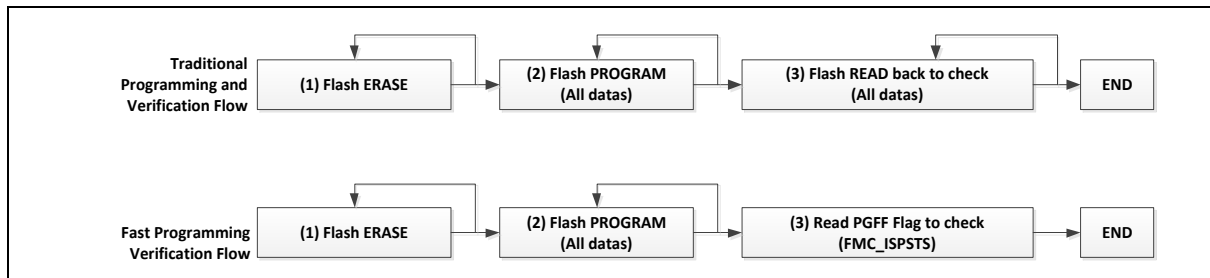

Figure 6.6-19 Verification Flow
In traditional Flash updated operation, the Flash memory has to perform three steps to complete the Flash memory updated procedure, (1) Flash ERASE (2) Flash PROGRAM (3) Flash READ back all of data to check the correction. In the M2354 series, it only reads FMC_ISPSTS to check PGFF flag in Step (3) without reading data back to confirm. Figure 6.6-19 compares traditional programming verification flow and fast programming verification flow.